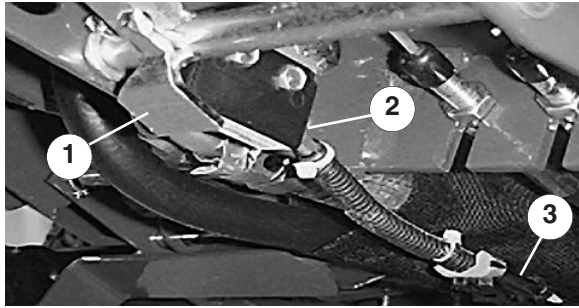

Figure 40
1. The gap between the parking brake shaft pivot paddle and the bottom of the interlock switch (Fig. 40) should be approximately $\frac{1}{16}$ " (the paddle must not contact switch).